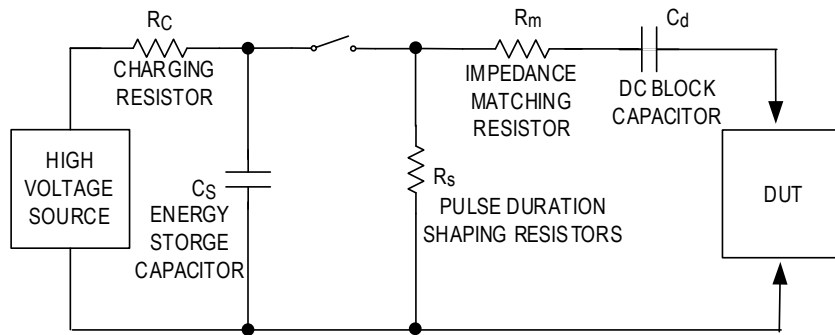
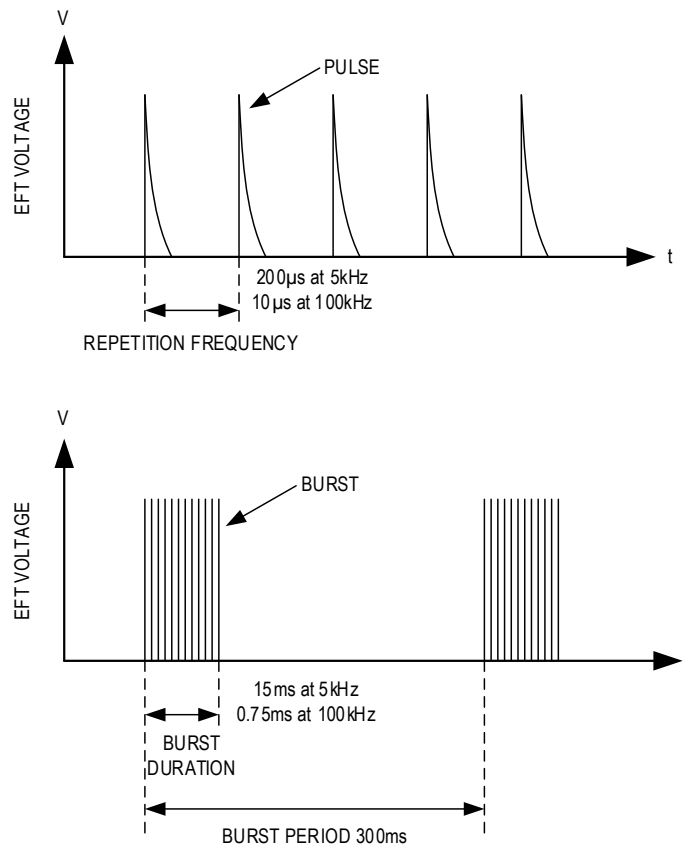

Figure 38. IEC 61000-4-4 Test Model
Figure 39. IEC 61000-4-4 Electrical Fast Transient/Burst Waveform
- EFT test model shown in Figure 38, and EFT waveform shown in Figure 39.